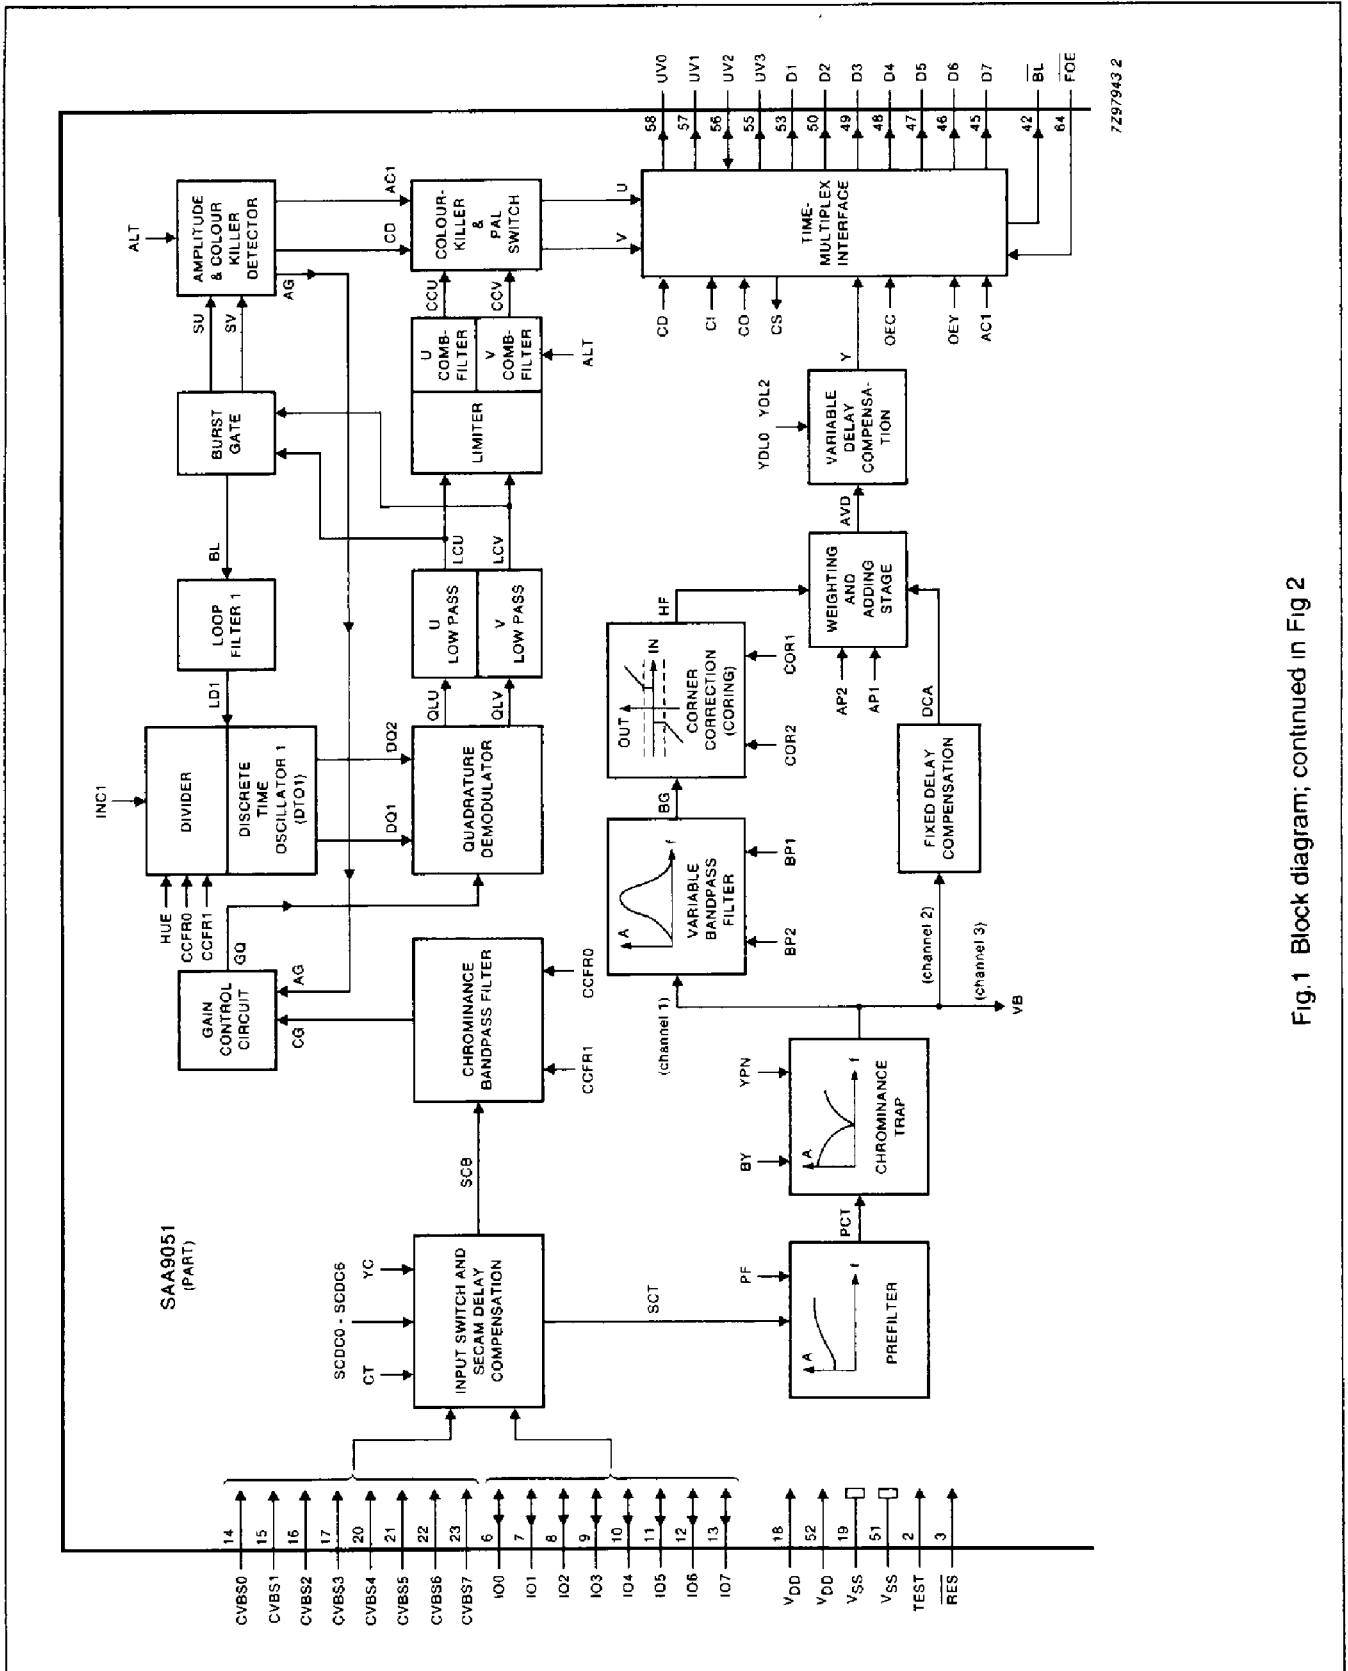

Fig. 1 Block diagram; continued in Fig 2
**FUNCTIONAL DESCRIPTION (see Fig.1)**
After the chrominance trap stage (see Fig.1), the luminance path is separated into three Channels as follows:
**Chrominance path (see Fig.1)**